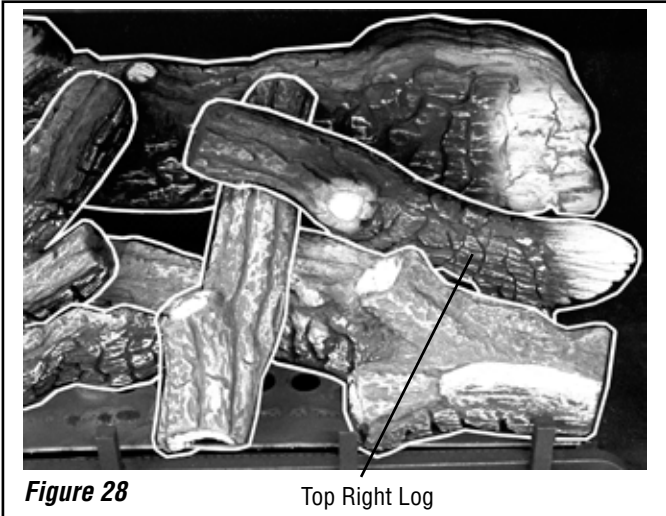

Figure 28 Top Right Log
7. Install the Top Right Log into the corresponding indentations on Front Center Log and Locating Pin as shown in **Figure 28**.